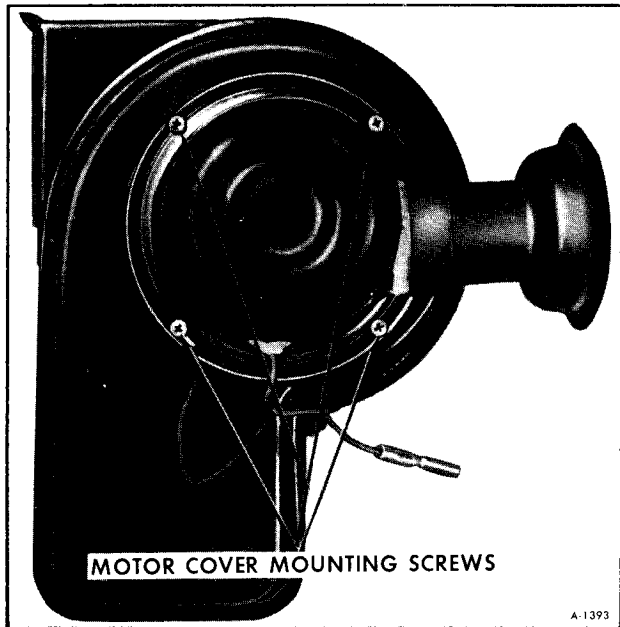

Figure 27—Motor Cover Mounting Screws
8. Remove motor cover (4 screws) (See figure 27). Motor, motor mount assembly, and small blower wheel will then come free from the blower housing (See figure 23).